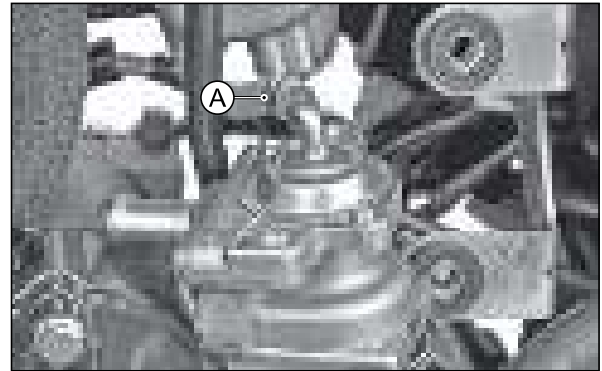

Fig. 4.50
- Dislocate the clip (A) from the hose air cut valve and disconnect the hose from secondary air injection valve. (Fig. 4.50)